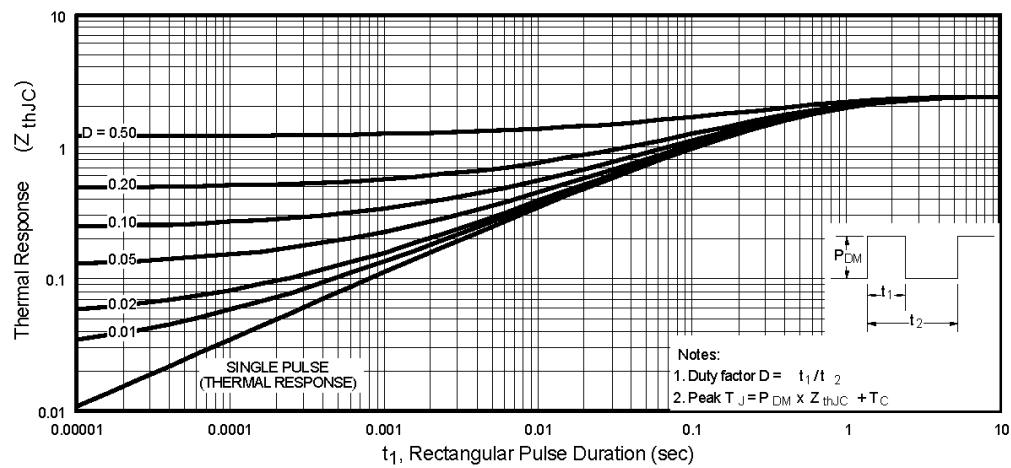

Fig 11. Maximum Effective Transient Thermal Impedance, Junction-to-Case
- ① Repetitive rating; pulse width limited by max. junction temperature. (See fig. 11)
② $V_{DD} = 25V$, starting $T_J = 25^\circ C$, $L = 240\mu H$